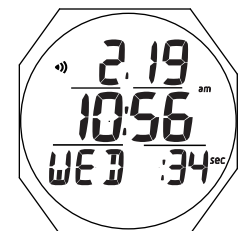

Fig. 4A - WATCH MAIN (Home with Date)
**MAIN TIME**, information includes (Fig. 4A/B/C):